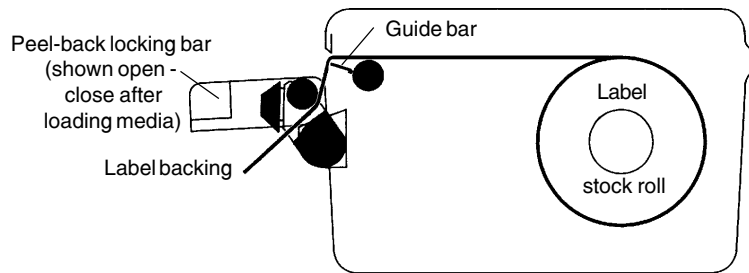

Figure 5. Peel-back mode label feed path
- For **peel-back label presentation** (see Figure 5): Raise the peel-back locking bar until it is horizontal. Pass the label stock over the drive roller and the guide bar, then down and behind the white peel-back roller. The label stock should extend about 1/2" beyond the guide bar; tear off or retract any excess. Snap the locking bar down tight against the printer body. Close the printer. Press the FEED button a few times to confirm that labels peel properly.